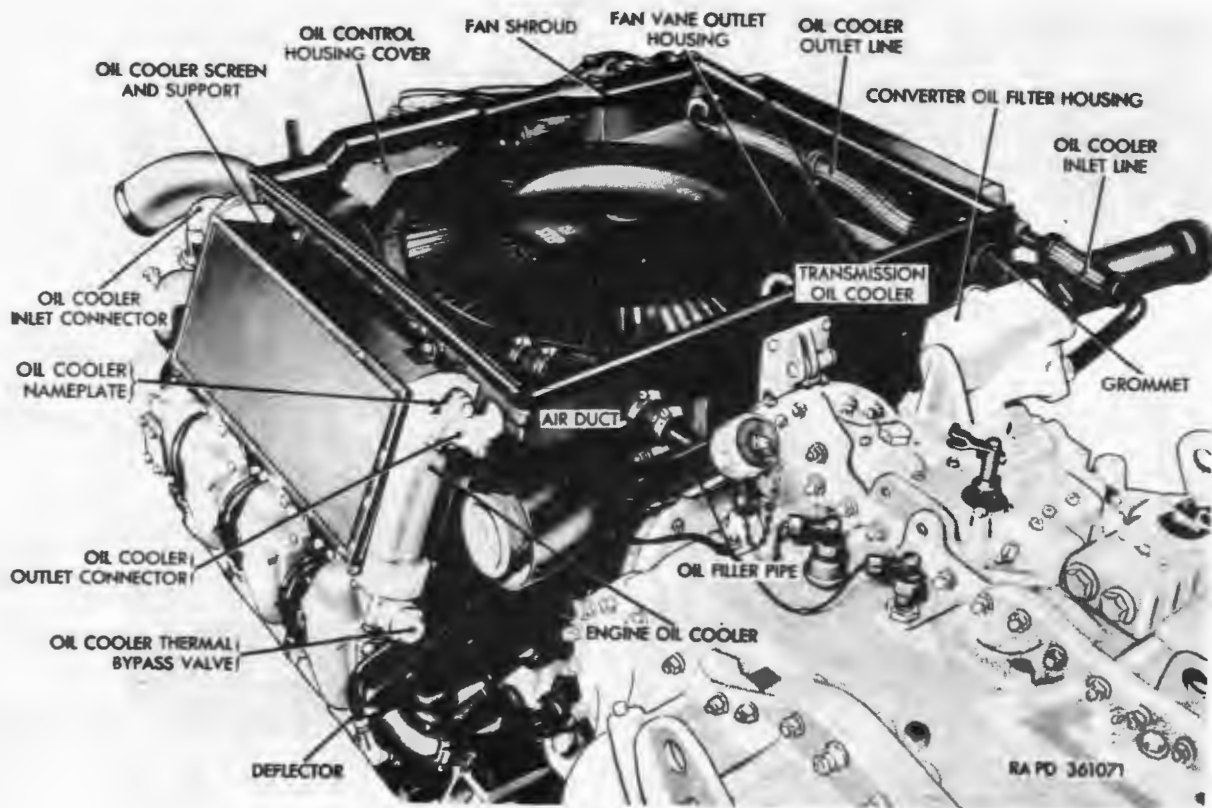
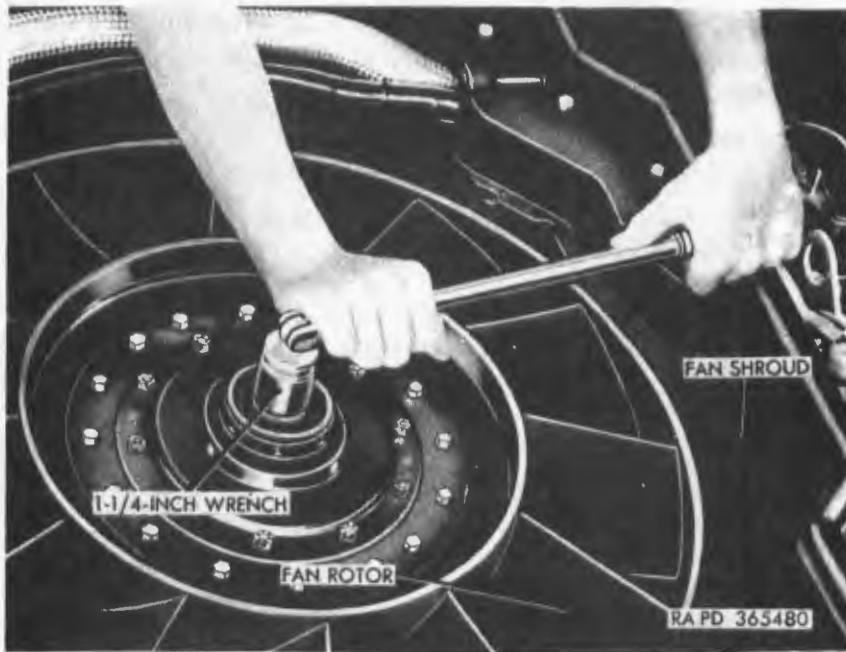

Figure 134. Oil coolers and fan shroud—installed view.
Figure 136. Removing fan rotor.
The entire cooling system is integral with the engine and consists of an engine oil cooler (fig. 134), transmission oil cooler, cooling fan and clutch, fan shroud, and deflectors. Air for cooling the engine, engine oil, and transmission oil is drawn in through the grille doors (fig. 236) of the engine compartment and directed under the engine. The air is then drawn through the cylinder cooling fins, deflectors, and oil coolers by the fan rotor which forces the used air out through the fan vane outlet housing and air outlet grilles of the engine compartment. The cooling effect is increased by shrouding to the top of the cylinder cooling fins. Air ducts (fig. 134) around the exhaust stacks permit air to be drawn in from outside the hull to pass over and cool the exhaust stacks. This air is forced out along with that from the cylinder and oil coolers by the fan rotor. Normal operating temperature of the engine oil and transmission oil is maintained through the use of a thermal bypass valve (par. 133) located in each of the oil coolers.
b. Removal. Remove air outlet grilles and grille supports over engine compartment (par. 234). Remove six hex-head bolts with integral lockwashers and remove oil control housing cover (fig. 134). Remove 14 self-locking hex nuts that secure fan vane outlet housing to engine shroud and remove outlet housing. Remove three roundhead screws with integral lockwashers that secure drive shaft cover to fan and remove cover. Remove cotter pin from slotted nut and remove nut from fan drive shaft with a 1¼-inch socket or box wrench (fig. 136). Remove fan rotor and clutch assembly.
e. *Installation.* Position assembled fan rotor, clutch, and adapter on splined drive shaft, and install $\frac{3}{4}$ -inch slotted nut and cotter pin. Tighten nut with a $1\frac{1}{4}$ -inch socket or box wrench (fig. 136). Position drive shaft cover on fan rotor and secure with three $\frac{1}{4}$ x $\frac{5}{16}$ roundhead screws with integral lockwashers. Position fan vane outlet housing (fig. 134) on fan shroud and secure with fourteen $\frac{5}{16}$ -inch self-locking nuts. Install oil control housing cover
a. General (fig. 134). The transmission oil cooler is mounted over cylinders 1-3-5 and cools the oil for the transmission; the engine oil cooler is mounted over cylinders 2-4-6 and cools the oil for the engine. The flow of oil through the coolers is controlled by an oil cooler thermal bypass valve located at the bottom end of each oil cooler, as well as the oil cooler bypass valve in the oil control housing. Removal and installation of both oil coolers is accomplished in essentially the same manner.
- (1) Remove power plant (par. 126).
- (2) Disconnect oil cooler inlet and outlet lines (fig. 134) at oil cooler inlet and outlet connectors, using wrench 5120-708-3738 (fig. 137).
- (3) Remove locking wire, six hex-head bolts, and lockwashers that secure oil cooler inlet and outlet connectors (fig. 134) to oil cooler. Remove connectors and gaskets and discard gaskets.
- (4) Remove oil cooler screen and support (fig. 134) by cutting locking wire and removing two jamnuts and hex nuts at bottom of support and removing two hex-head bolts with integral lockwashers at top of support. Remove oil cooler screen and support from oil cooler.
- (5) Cut locking wire and remove two hex-head bolts and flat washers from lower portion of oil cooler. Remove three jamnuts and hex nuts securing upper portion of oil cooler to fan shroud. Remove oil cooler and drain oil into waste oil receptacle.
- (1) Position oil cooler (fig. 134) on engine and fan shroud. Secure lower portion of cooler to engine with two $\frac{3}{8}$ x $3\frac{5}{8}$ hex-head bolts and $\frac{2}{16}$ -inch flat washers. Secure cooler to fan shroud by installing three $\frac{3}{8}$ -inch hex nuts and $\frac{3}{8}$ -inch jamnuts on oil cooler studs extending through fan shroud.
- (2) Position oil cooler screen and support (fig. 134) on oil cooler and fan shroud. Secure support to cooler with two $\frac{5}{16}$ -inch hex nuts, $\frac{5}{16}$ -inch jamnuts, and locking wire. Secure support to fan shroud with two $\frac{5}{16}$ x $\frac{5}{16}$ hex-head bolts with integral lockwashers.
- (3) Position oil cooler outlet connector (fig. 134) and new gasket on outlet of oil cooler and secure with one $\frac{3}{8}$ x $1\frac{1}{4}$ hex-head bolt at inside and two $\frac{5}{8}$ x $1\frac{5}{8}$ hex-head bolts at top and outside of connector flange. Secure bolts in place with locking wire.
- (4) Position oil cooler inlet connector (fig. 134) on inlet of oil cooler and secure with three $\frac{3}{8}$ x $1\frac{5}{8}$ hex-head bolts. Secure bolts in place with locking wire.
- (5) Connect oil cooler inlet and outlet lines (fig. 134) to oil cooler connectors using wrench 5120-708-3738 (fig. 137).
- (6) Record the replacement on DA Form 478.
a. General. The removal of the engine oil cooler or transmission oil cooler lines (fig. 134) is identical with the exception that the engine oil cooler lines are attached to the inlet and outlet connectors of the engine oil control housing whereas the transmission oil cooler lines are attached to the inlet and outlet connectors on the converter oil filter housing of the transmission.
- (1) Remove engine compartment grilles and grille supports (par. 234).
Note. Check installation of oil cooler outlet line to be sure that grommet (fig. 134) protects oil line from being cut by fan shroud.